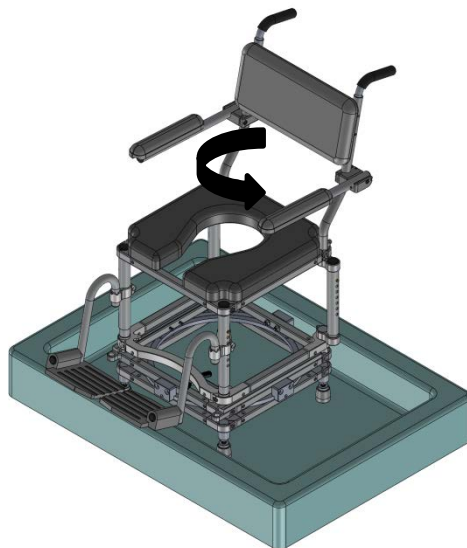

FIGURE 15
K. Once the shuttle frame is slide all the way across onto the shower-stall section, the latch will engage with a mating “stop” on the shower-stall section. The connector bridge can then be removed the shower-stall section can then be rotated to align the user up in front of the shower head, see Figure 15.